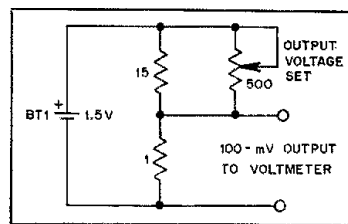

Fig. 2 — A modified calibration circuit for the GSNEF voltmeter. All resistances are in ohms.
□ I made two errors in my article, "An Inexpensive High-Z Accurate Transistor Voltmeter," which appeared in December 1979 *QST*. The value of R13 in Figs. 2 and 3 should be 2.4 kΩ *only*, not 2.4 kΩ in series with 100Ω.
a very high error in the calibration voltage. I suggest that the circuit shown here in Fig. 2 be used instead. Adjust the 500-ohm potentiometer for an output of exactly 100 mV, and calibrate the voltmeter on the 100-mV range. — *R. E. Barber, G3NEF/ZCARE, 7 Northern Ave., Henlow, Bedford, England*
□ In "A Universal Digital Frequency Readout," January 1980 *QST*, a few errors occurred in Fig. 2 on page 13...U3 is a CD4060, U14-U17 incl. are 74LS190 and U10-U13 incl. are 9374 ICs. All diodes are 1N914 or 1N4148.